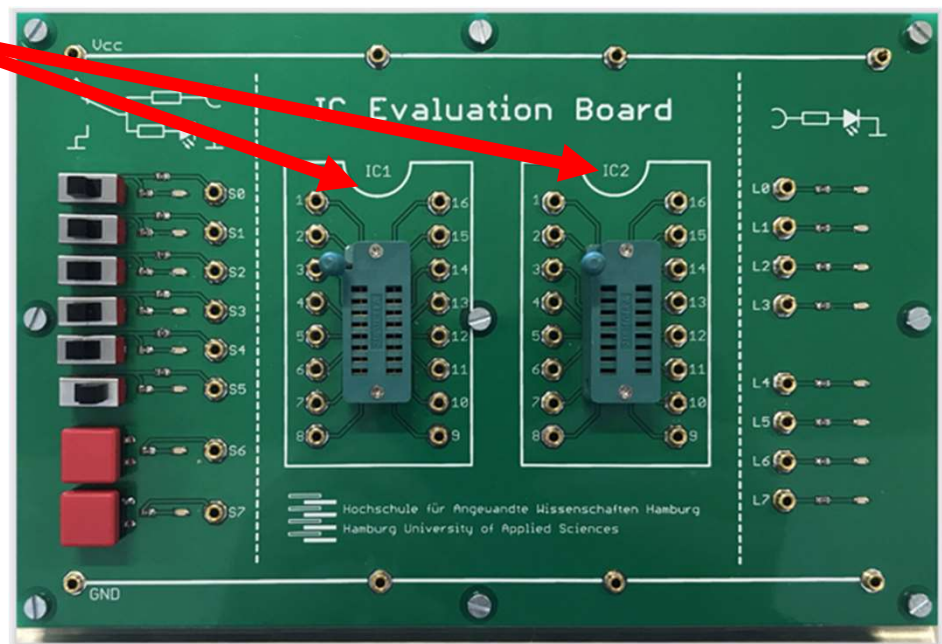
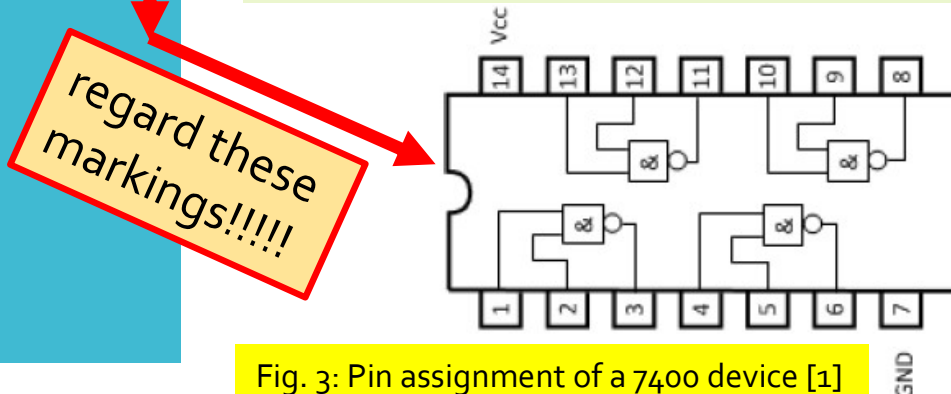

Fig. 2: Evaluation Board
Fig. 3: Pin assignment of a 7400 device [1]
- Build the "Lamp-part" of the room controller with 2-input NAND gates (Fig. 3) only using the Evaluation Board (Fig. 2).